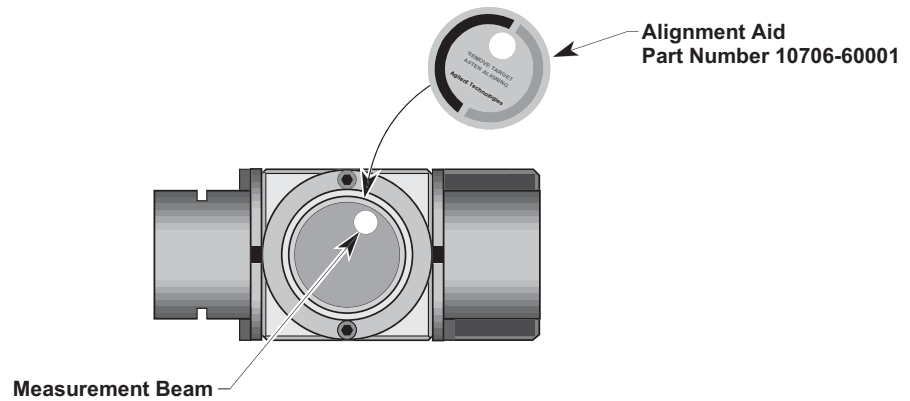

Figure 160 Agilent 10716A with alignment aid attached over measurement beam
- 7 Place the alignment aid (Agilent Part Number 10706-60001) over the output aperture (plane mirror converter) on the interferometer such that the measurement beam passes through the aperture on the alignment aid. See Figure 160.